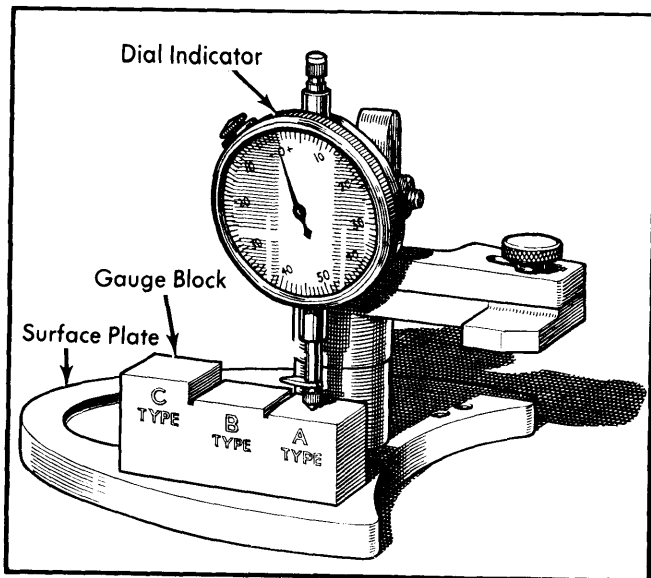

Fig. 2 Calibrating Dial Indicator Tool
3) Using tool 18G-191, adjust dial indicator to zero on machined step "A" of setting block (see Fig. 2). Place dial indicator and base of tool on head of pinion and position tool so dial indicator feeler rests on center of differential bearing bore. Note any variation from zero. Now swing indicator to other bearing bore and again note variation from zero. Average the two variations together.